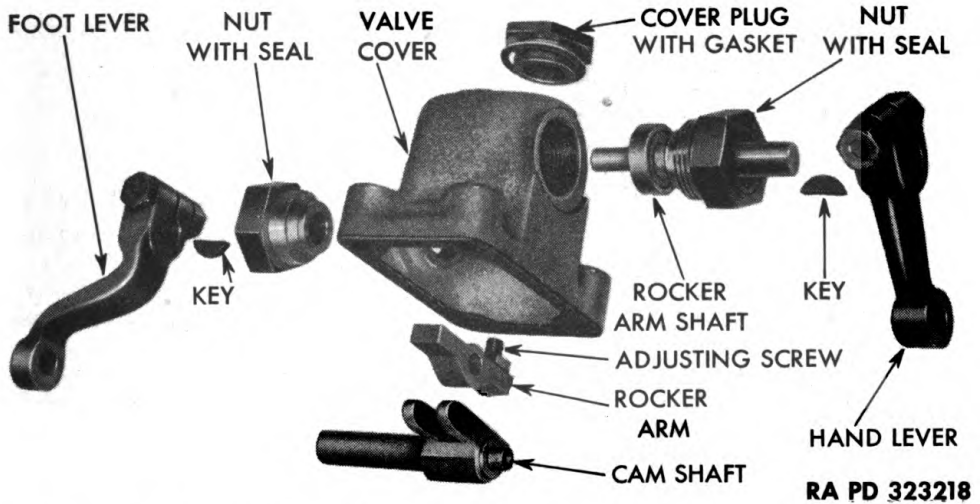

Figure 224 — Air and Electric Brake Control Valve Disassembled
(2) REMOVE FOOT AND HAND LEVERS (fig. 224). Loosen nuts on cap screws clamping levers to shafts, and remove levers. Pull Woodruff keys from shafts.
(3) REMOVE COVER PLUG WITH GASKET (fig. 224).
(4) REMOVE CAMSHAFT (fig. 224). Unscrew camshaft nut with seal from valve housing cover. Move camshaft outward until small
(5) **REMOVE ROCKER ARM SHAFT** (fig. 224). Unscrew rocker arm shaft nut with seal from valve housing cover, and pull shaft out of nut opening. Rocker arm will then drop out of cover.
(5) **INSTALL ROCKER ARM SHAFT** (fig. 224). Place rocker arm in valve housing cover, and install camshaft. Install shaft nut with seal.
(6) **INSTALL CAMSHAFT** (fig. 224). Insert camshaft into housing cover through opening in base, and let shaft project through shaft nut